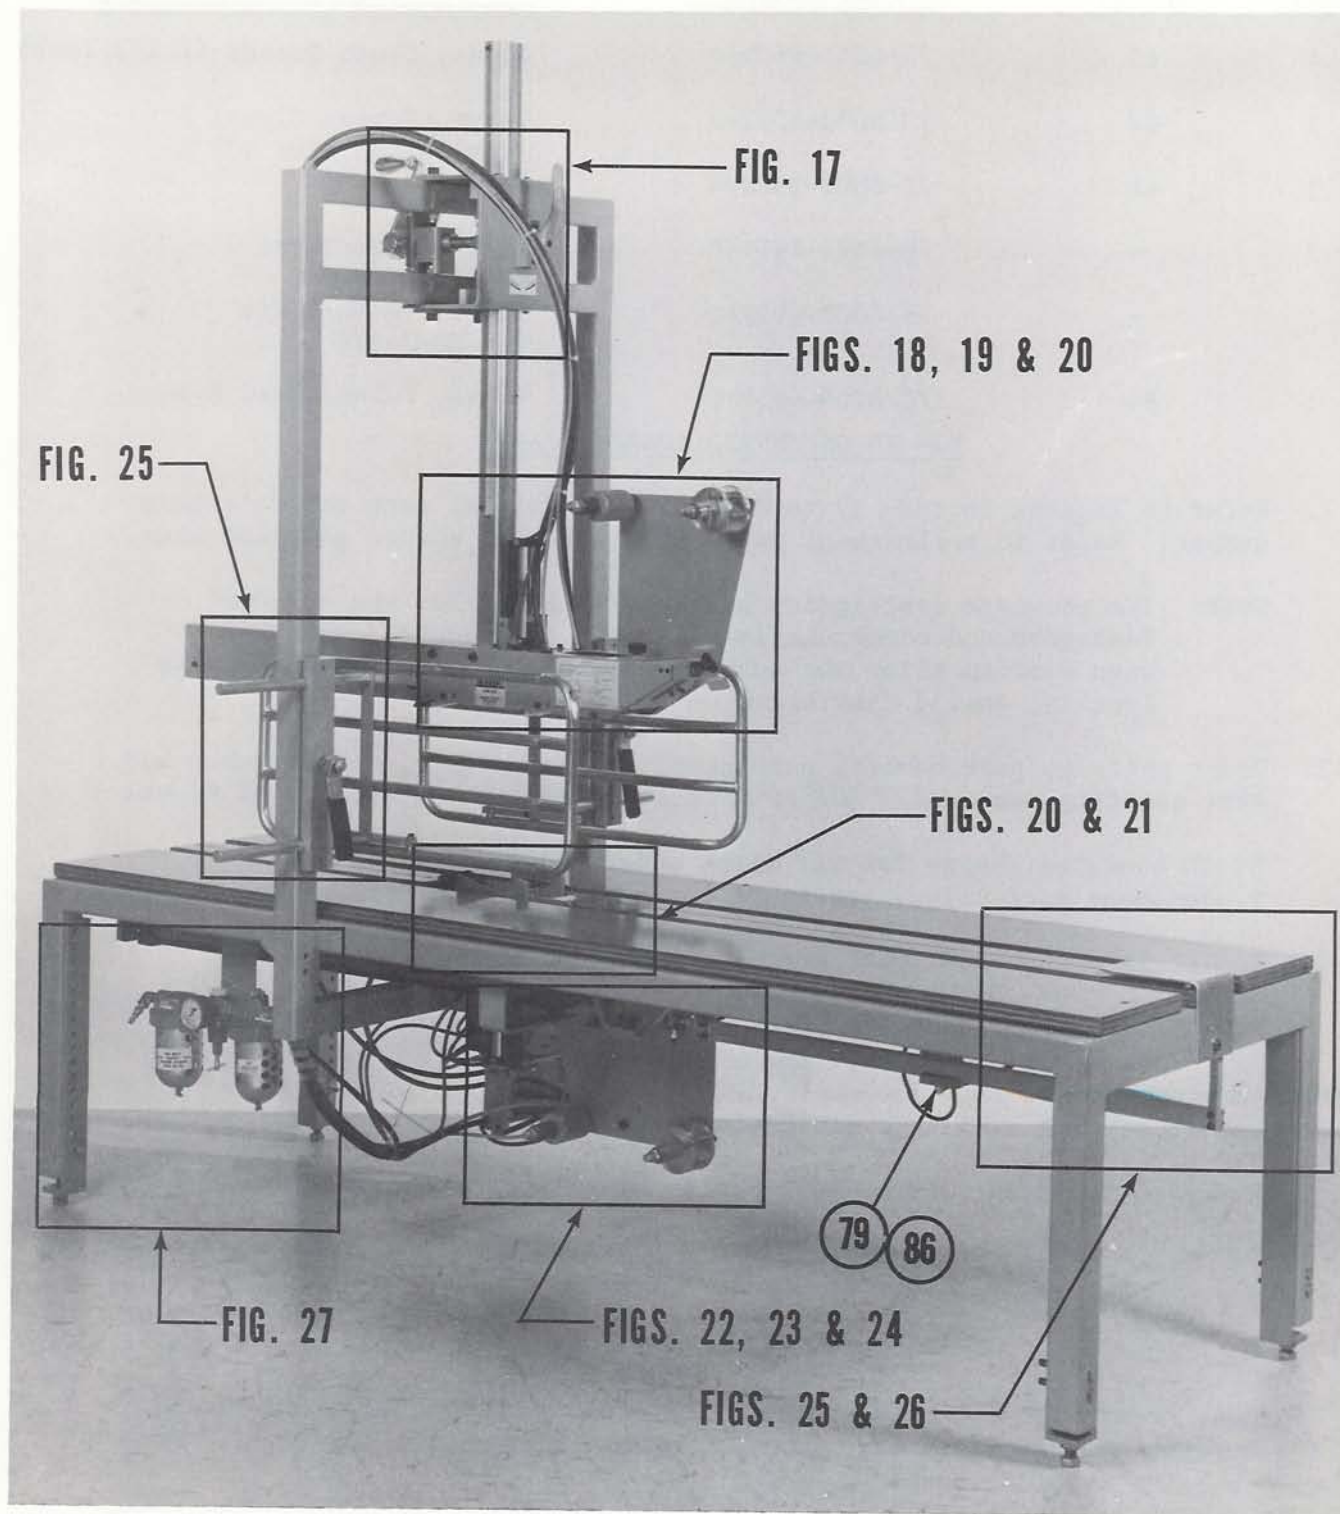

FIGURE 16 REPLACEMENT PART LOCATION
1. Refer to Figures 16 thru 27 to determine individual part and reference number. Refer to replacement parts list for part number and part name.